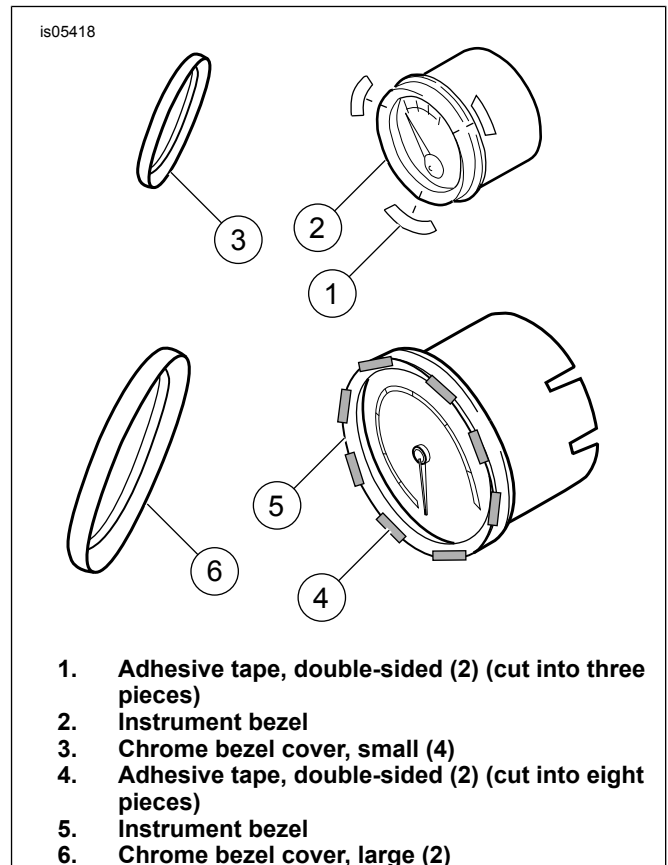

Figure 1. Install Instrument Bezels
- See Figure 1. Cut tape (1) into six equal pieces.
- Remove paper liner from one side of tape and apply three pieces tape (spaced equally) to the instrument bezel (2). Press firmly.
- Position instrument bezel cover (3) over gauge and press firmly into place.
- See Figure 1. Cut tape (4) into sixteen equal pieces. Use eight pieces for each bezel cover.